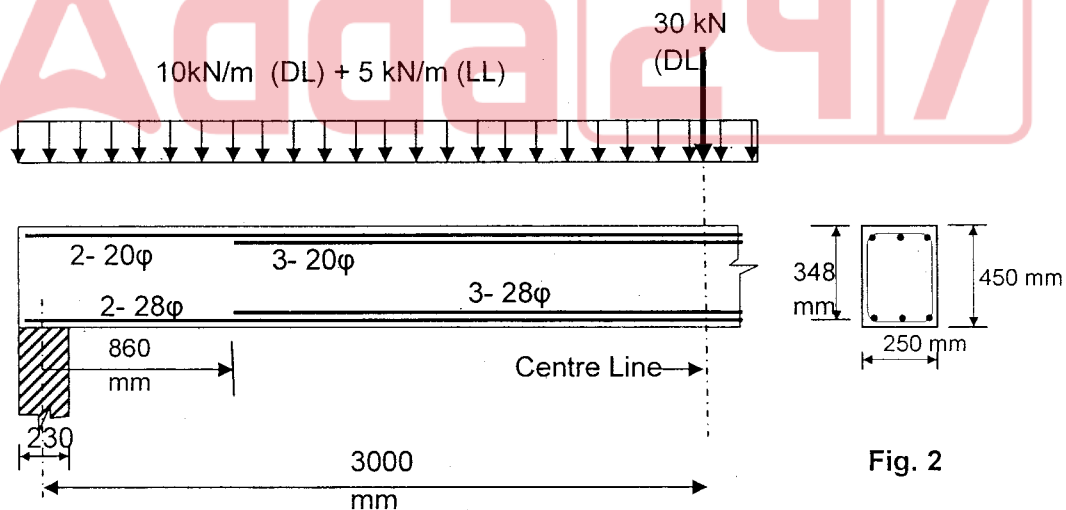

Fig. 2
- Design shear-reinforcement for the doubly reinforced beam shown in Fig. 2. The beam is simply supported with a total centre-to-centre span of 6.0 m. Use 8mm $\phi$  vertical stirrups made of Fe 250 steel. The shear at the bar-cutoff point (860 mm from centre of support) also needs to be checked. The concrete is of M25 and flexural steel of Fe 415. (40)